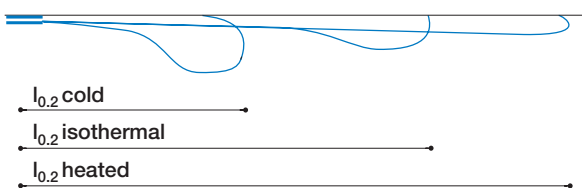

Fig. 11, Air throw  $l_{0,2}$  for diffusers mounted in ceiling.
1. When air is supplied horizontally with cold air, the air throws are reduced by 1,5% per degree (Figure 11), while the vertical spread  $b_v$  is increased.
2. When air is supplied horizontally with heated air, the air throws are increased with 2% per degree (Figure 11).